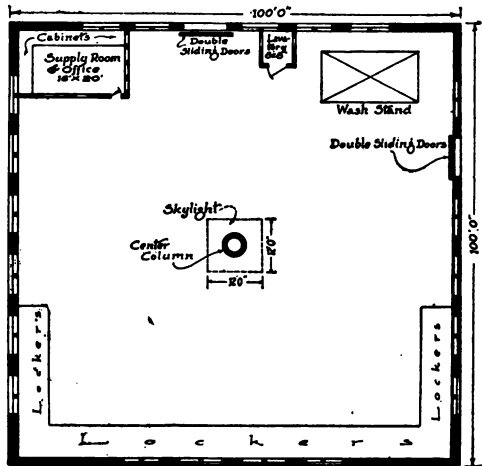

Fig. 9. Brooklyn Medium Size (100 x 100) Garage.
*Typical Arrangements. Layout 6.* In the following, a garage is considered of medium size, which has a floor space of approximately 10,000 to 12,000 square feet. In a square form, this gives from 100 x 100 to 100 x 120 feet, and in a long narrow form, 60 x 200 feet, with various other forms in between these two. As a matter of fact, neither the exactly square form nor the unusually long and very narrow shape is an advantageous one. A floor plan of a Brooklyn, New York, public garage is shown in Fig. 9. This garage measures exactly 100 feet each way. It is on a corner, with an
entrance on each street. Moreover, the single central post appears to give a maximum of floor space. The supply room and the office are small, and apparently little space is wasted or taken up for things other than car storage. Yet, when we come to figure out the number of cars which this building will store—only 30, as can be figured from the plan, Fig. 9, and with little or no aisle room, so that cars would have to be moved every time one not in the first row was taken out—the truth of the statement that the square shape is not economical is proved. By inspecting this layout for an opportunity to improve upon it, we see that only two things can be rearranged to advantage. One is to reduce the number and size of the lockers. This size and arrangement may have been forced by local conditions, competition, or by some other reason, but even that arrangement of lockers is not as good nor as economical of space as if they were grouped in one corner.